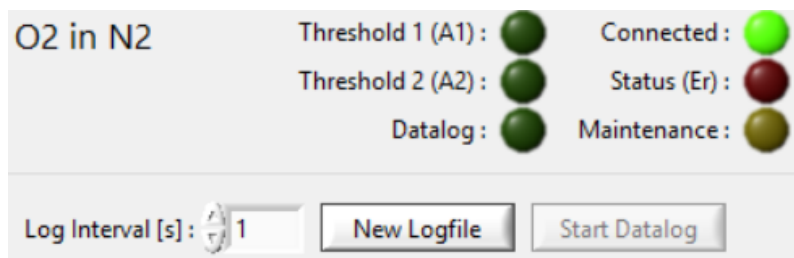

Figure 5: The indicator lights and data logging window.
The **gas pair** which is currently selected is displayed next to the indicator lights in the measure window at the top right corner of the chart. In figure 5 it is **O2 in N2**.
**Indicator Lights:** There are six indicator lights as shown in figure 5. Table 1 summarizes their meaning.